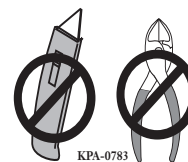

Figure 4 — Pierce Entry Grommet
**Step 5:** Determine cable entry location into the housing and pierce the appropriate entry grommet as illustrated in (Figure 4).